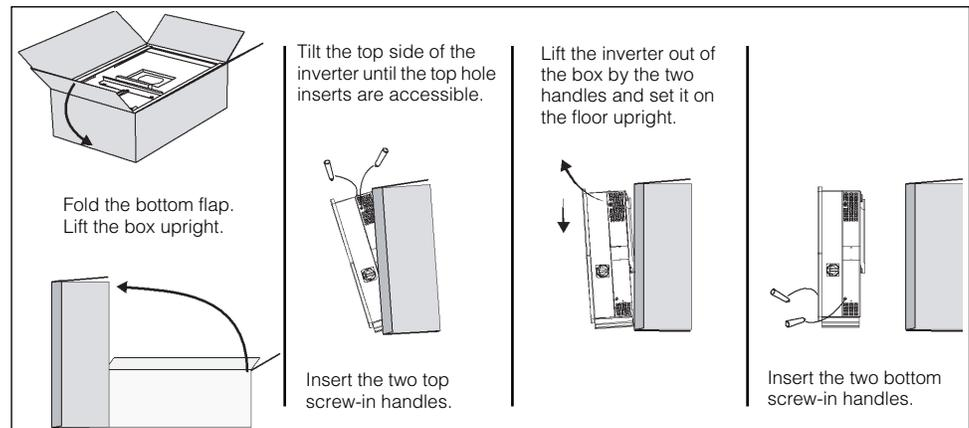

Figure 2-7 Install Screw-in Handles
8. Install the screw-in handles as shown in Figure 2-7. Screw in the handles until they are fully seated in the inserts.
7. Unpack the screw-in handles and install them as shown in Figure 2-7, “Install Screw-in Handles” on page 2–11. Screw in the handles until they are fully seated in the inserts.